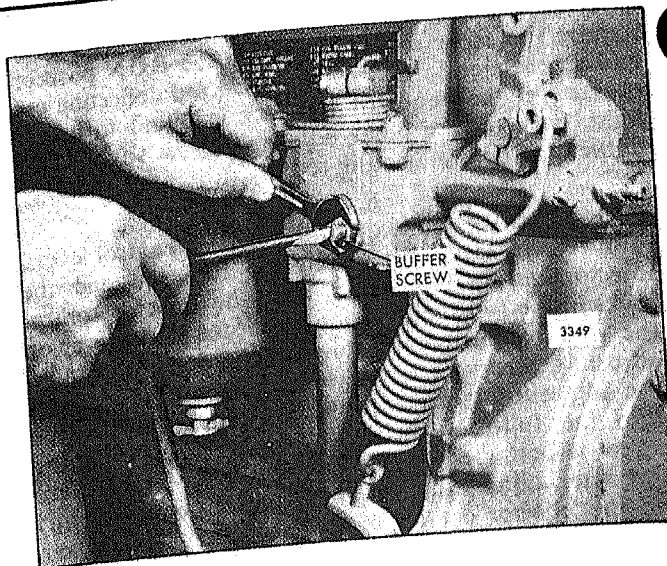

Fig. 7 - Adjusting Buffer Screw
1. With the engine running at normal operating temperature, turn the buffer screw in (Fig. 7) so that it contacts the differential lever as lightly as possible and still eliminates engine roll.